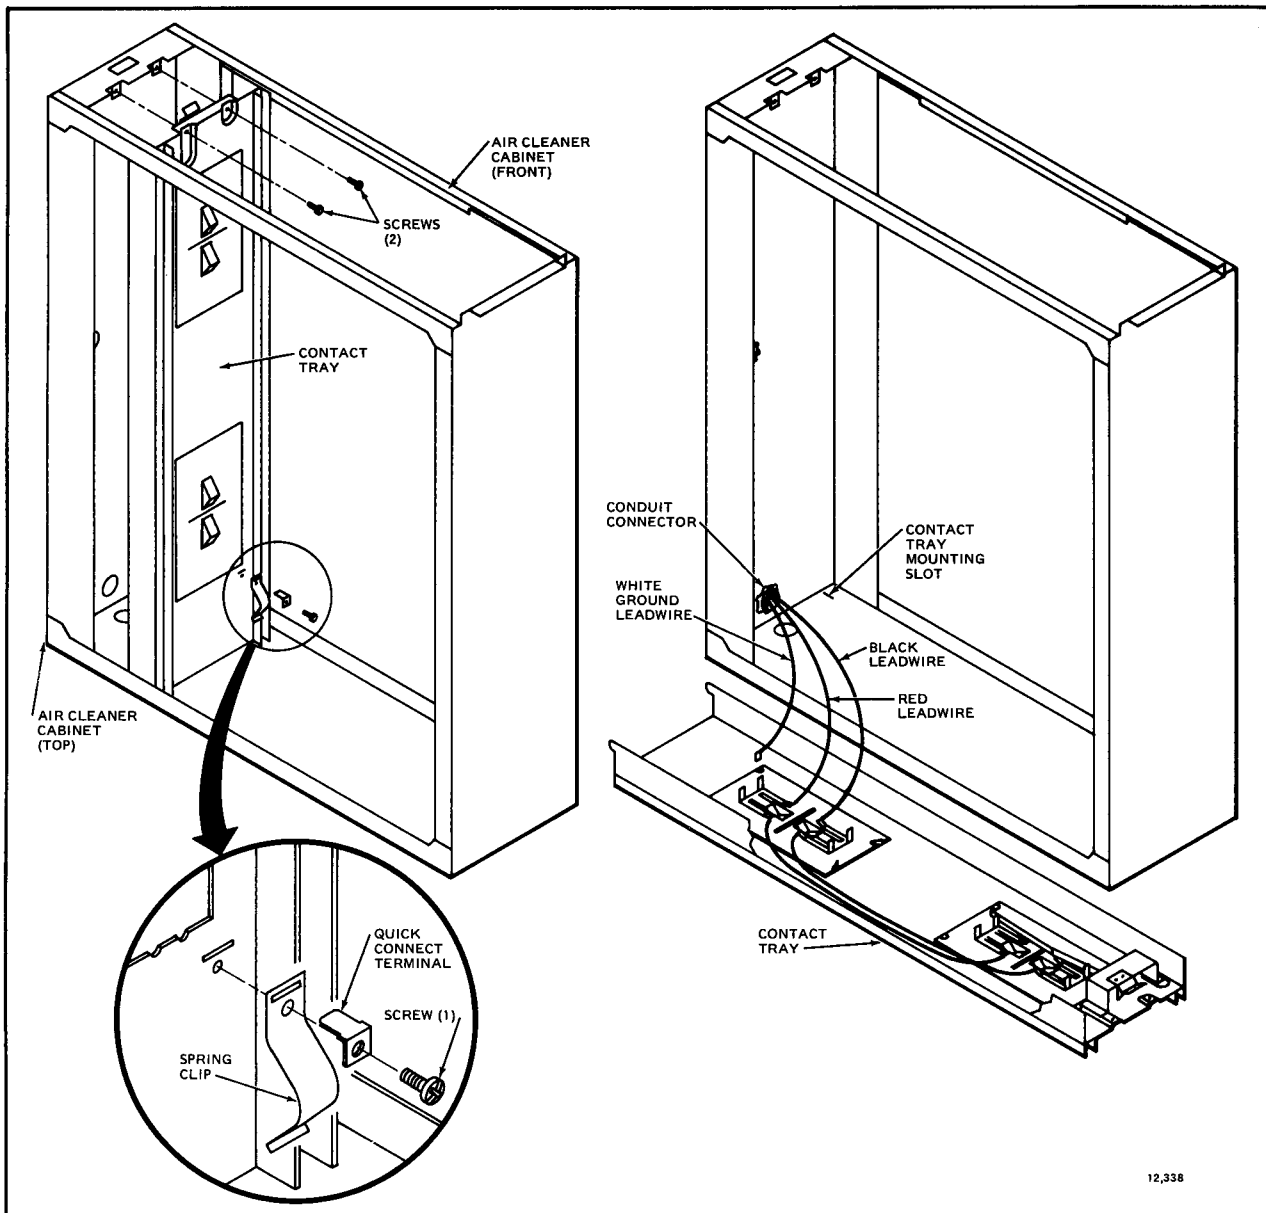

FIG. 22—INSTALL THE CONDUIT ON THE CABINET AND MAKE WIRING CONNECTIONS TO CONTACT TRAY.
red wire to the ionizer terminal. See Fig. 22.
- ☐ Mount one of the quick connect ground terminals and the leaf spring supplied in the kit on the contact tray and connect the white wire to it. See Fig. 22.